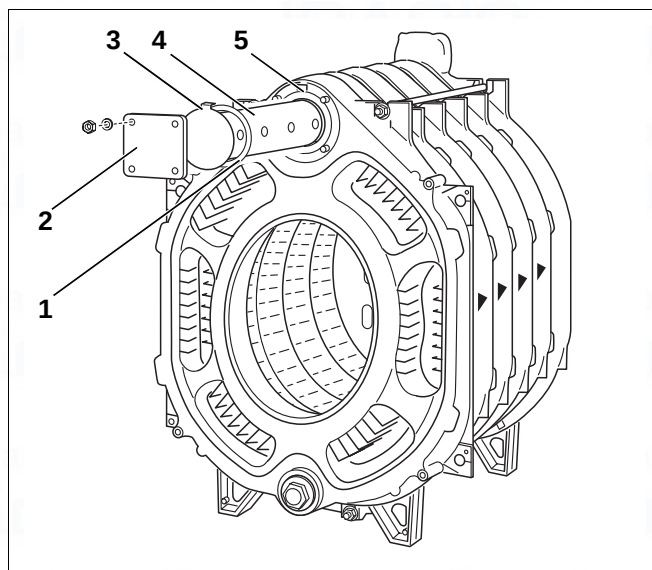

Fig. 19 Installation – feed pipe
- Slide gasket (Fig. 19, [1]) over the feed pipe (Fig. 19, [4]).
- Close off with dummy flange (Fig. 19, [2]).
The lug (Fig. 19, [3]) on the feed pipe connection endplate must slide into the recess on the upper boiler hub (Fig. 19, [5]). The feed pipe must be fixed in such a way that the escape openings on the feed pipe are positioned at the correct angle. This ensures optimum distribution of water in the area of the upper boiler hub.